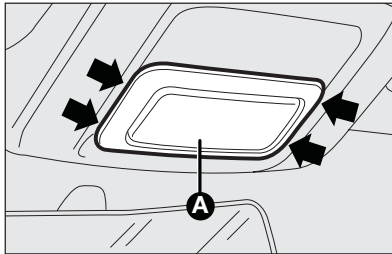

fig. 25
- using the screwdriver provided, extract the ceiling light **A**-fig. 25 working in the point indicated by the arrow;